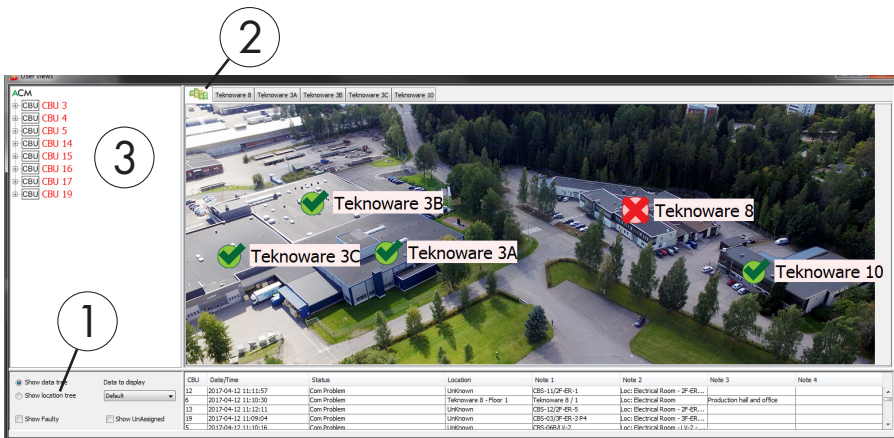

Figure 9. USER VIEWS – Setting up categories – Buildings
2. Start by checking the “Show location tree” (No. 1 in Figure 9). Make sure you are on the Site-level of the categories (No. 2 in Figure 9).
3. The Site image is displayed on the main display. To set the Buildings in the Site, right click a Building name on list in the left side of the window (No. 3 in Figure 9), and choose Add on Map. Then, left click the Site image on the spot you wish to add the Building icon to. In the Figure 9, there is an aerial view of the Teknoware factory site, to which all the Buildings are set accordingly to their physical location.